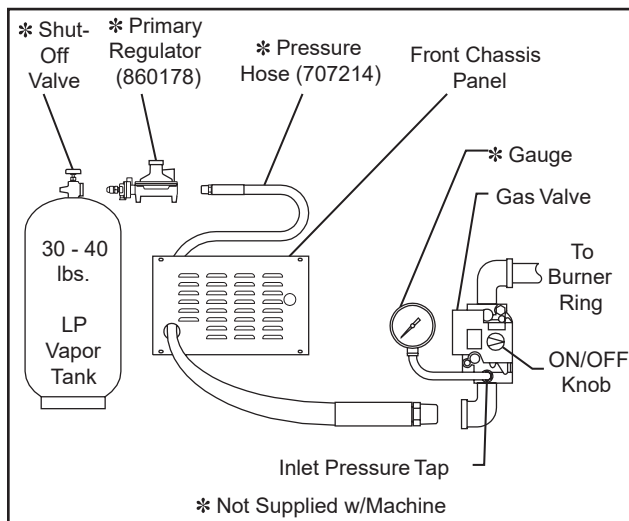

Figure 4 - LP Vapor Gas
2. Remove the chassis front panel to gain access to the gas valve. Refer to Figure 4.